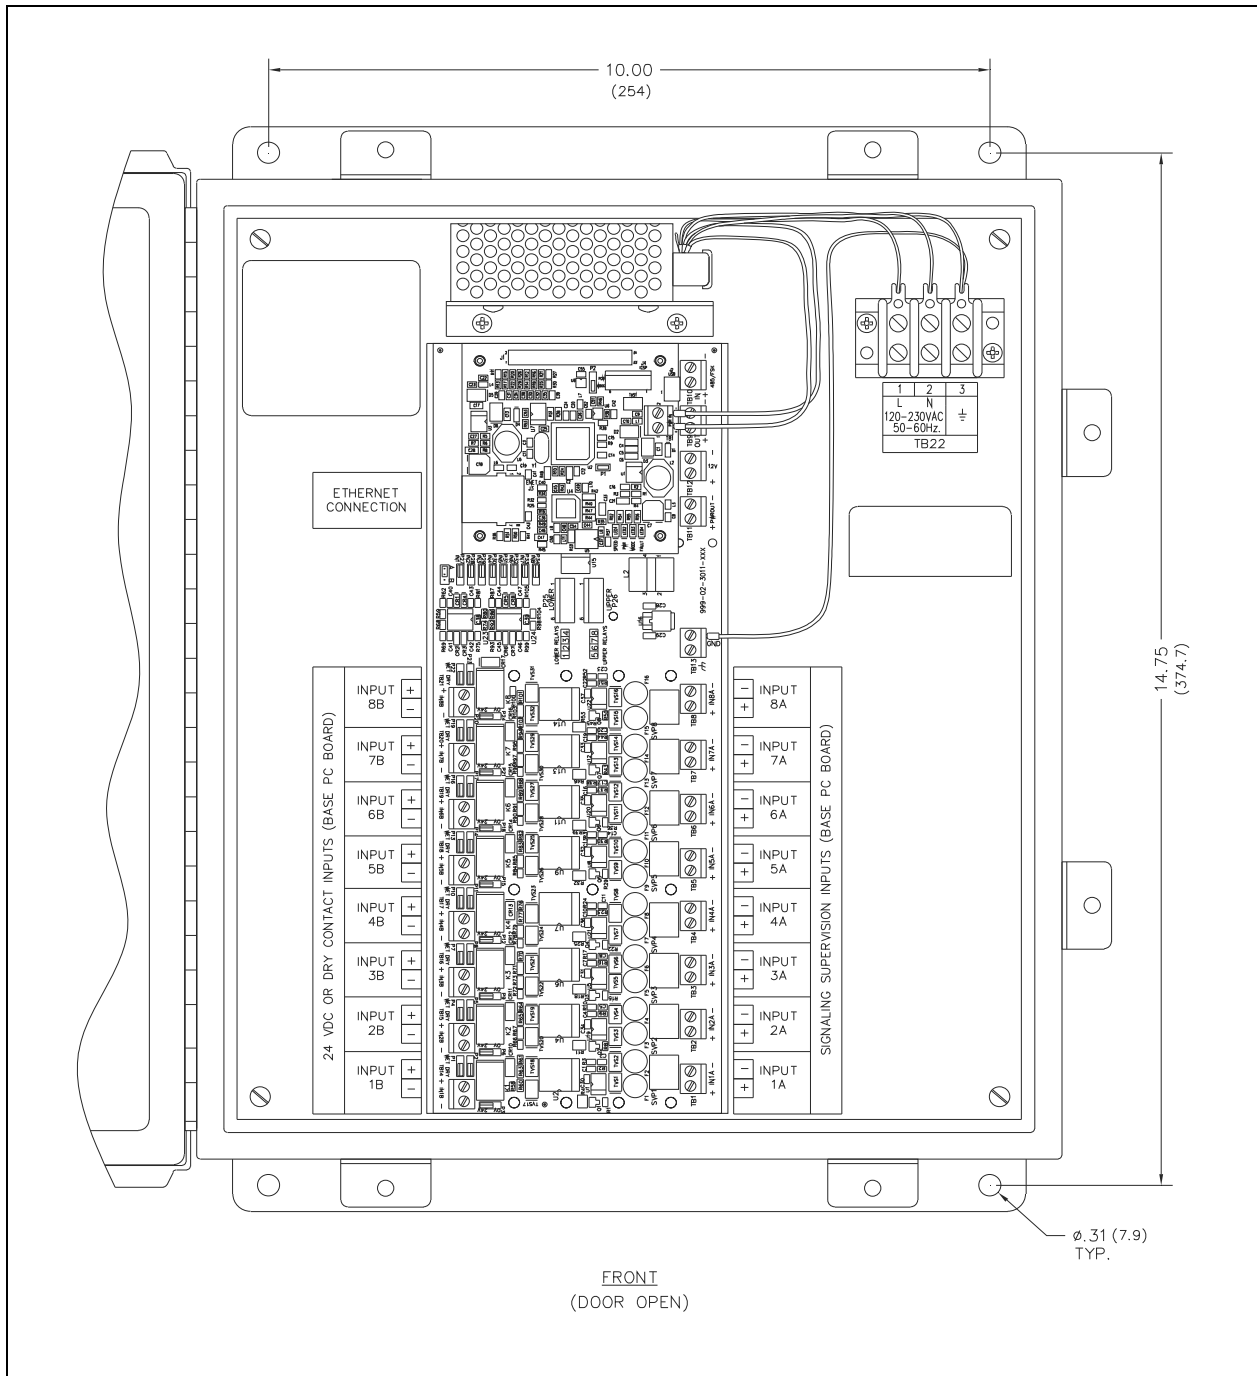

Figure 1. Model 378-003 E3 IP MIM Station (Interior View)
The No. 030-02-0098-001 E3 IP MIM has two components (see Figure 1):
2. Mount the enclosure to a suitable surface using appropriate (customer-supplied) hardware (see Figure 1 for mounting hole dimensions).
Connect 120 to 230 V ac power to terminal block TB22, at the top of the panel (see Figure 1).
Plug the Category 5 or better Ethernet cable with RJ45 plug from the network into the RJ45 jack, located on the CPU PCBA (see Figure 1).